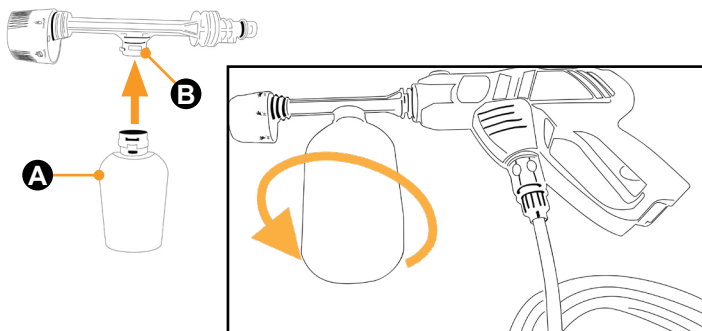

Fig.10
4. When viewing power cleaner from the orientation shown in figure 10, twist the additive bottle to the right to disengage the bottle from the nozzle..